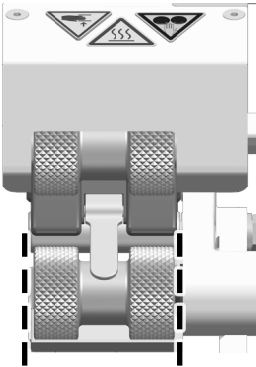

Figure 1
Check whether the **hot wedge (15)** is aligned centrally with the **drive/pressure roller (11)** (Figure 1). If this is not the case: